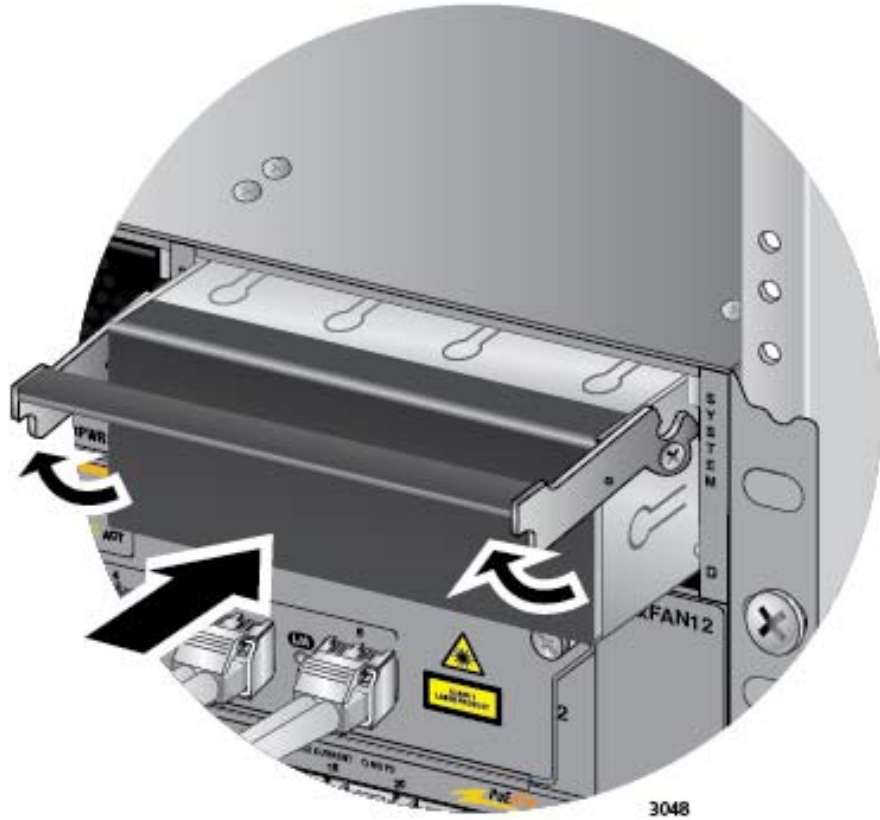

Figure 165. Installing a Blank Power Supply Slot Cover
5. Place the locking handle on the slot cover in the up position and slide the cover into the empty power supply slot, as shown in Figure 165 on page 274.